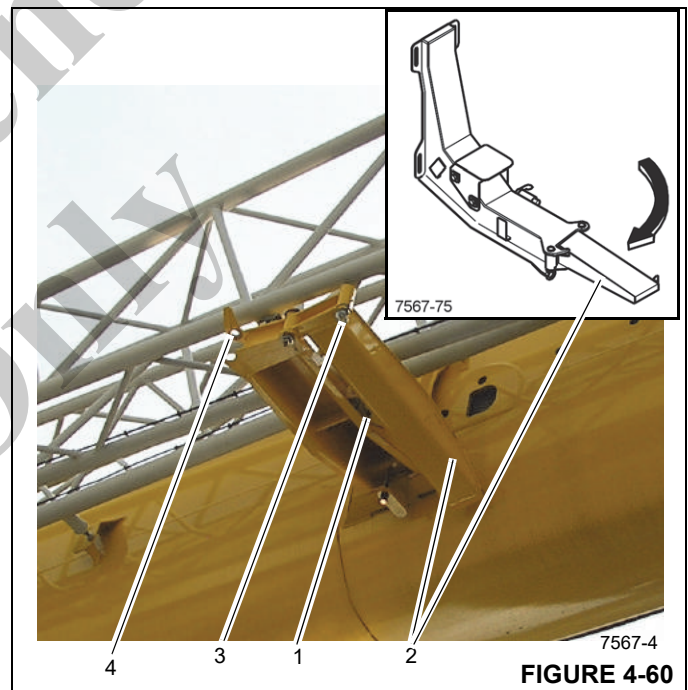
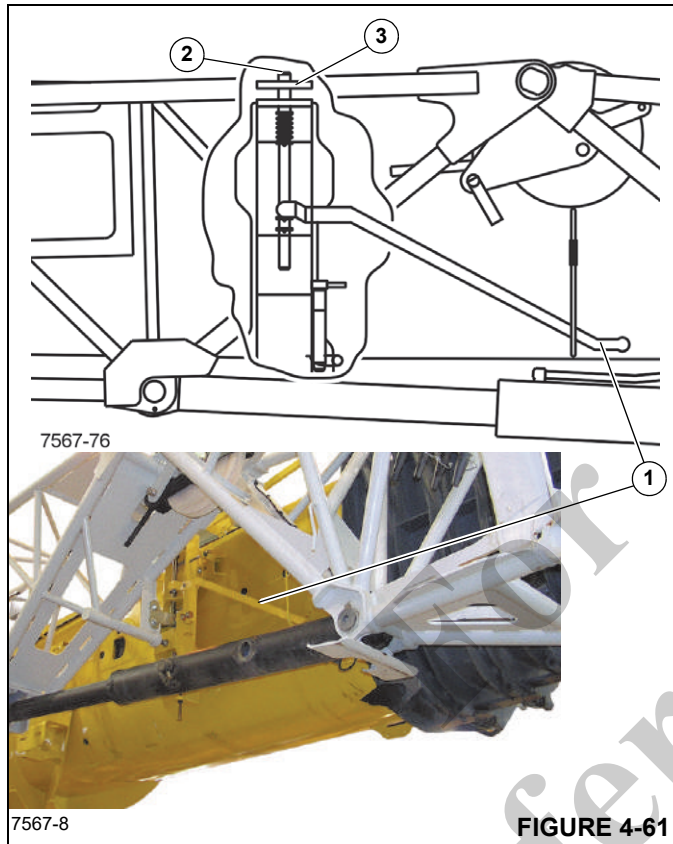

FIGURE 4-60
FIGURE 4-61
2. Release the retaining pin (1) and fold out the run-up ramp (2) until the locking pin (3) engages in the lug (4) (Figure 4-60).
- Using the jib pole, pull the front latch handle (1) (Figure 4-61) down to put the latch pin in position to lock the extension against the main boom.
- Disconnect the tag line from the boom nose and pull the front of the extension around so it rides up onto the run-up ramp (2) (Figure 4-60) and the locking lug (3) (Figure 4-61) is fully engaged by front latch pin (2).
If the front latch pin (2) (Figure 4-61) does not engage the 36 ft (11 m) extension, **STOP**. DO NOT continue to stow the boom extensions until the front latch pin has properly engaged the extension and the horizontal locking pin (1) (Figure 4-63) has been installed correctly.